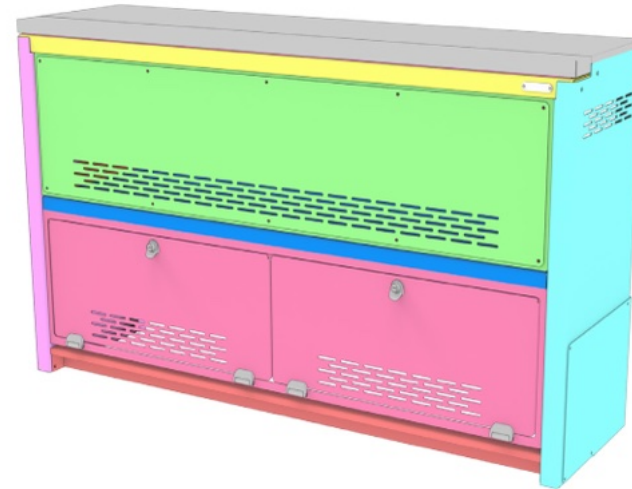

FIG 11
3.1 Choose Table Side Configuration: You may choose to have the **Utility Access Panels** or the **Solid Panel/Bungee** on *either* the **top** or the **bottom** of your **Middle Shelf**, depending on your needs. See **FIG 11** and **12** for visuals of both options. For best results, we'll be starting with the bottom set of doors.